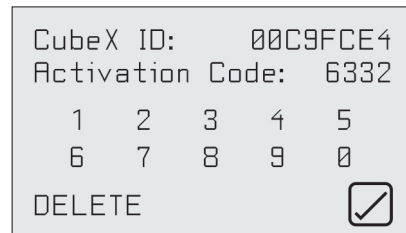

Fig. 17
- Enter the Activation ID into your CubeX using the numbers on your touchscreen and select the check box (Fig. 17); your CubeX is now unlocked. Make a note of your activation code as this may be required in the future. Click on the check box again to return to the touchscreen menu.